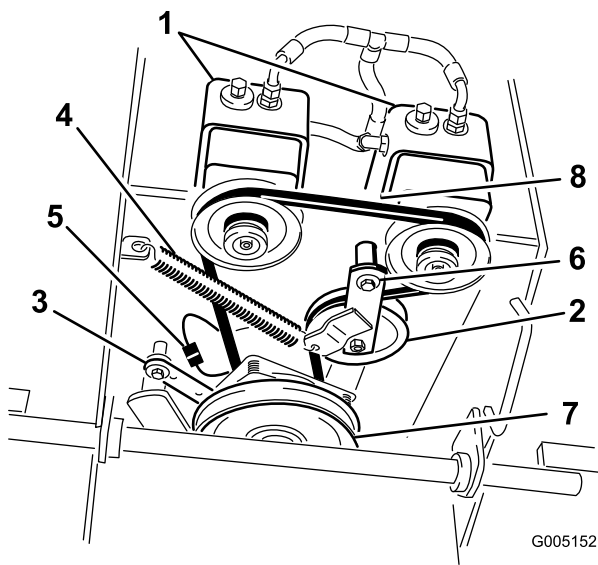

Figure 67
6. Disconnect the clutch retainer from the engine deck (Figure 67).
7. Unhook the idler spring from the frame (Figure 67).
9. Install the idler spring between idler arm and frame bracket (Figure 67).
10. Install the clutch retainer to the engine deck (Figure 67).